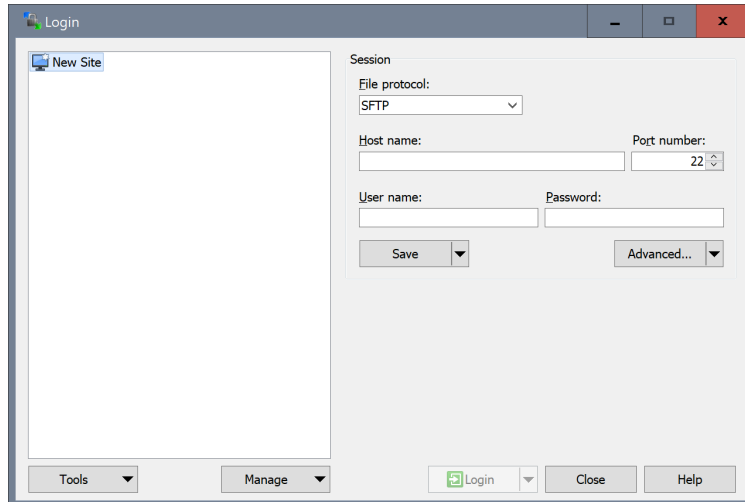

Figure 1.4: WinSCP Launch Window
2. Launch WinSCP and a window similar to fig 1.4 below should show up: